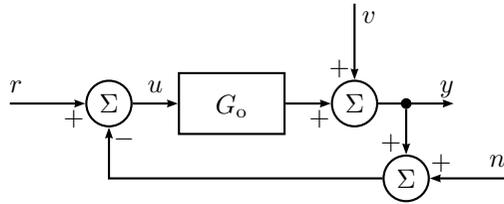

Figure 6.9a
6.9 Consider the system in Figure 6.9a. For $r(t) = 0$, $n(t) = 0$ and $v(t) = \sin t$ the steady-state output is given by